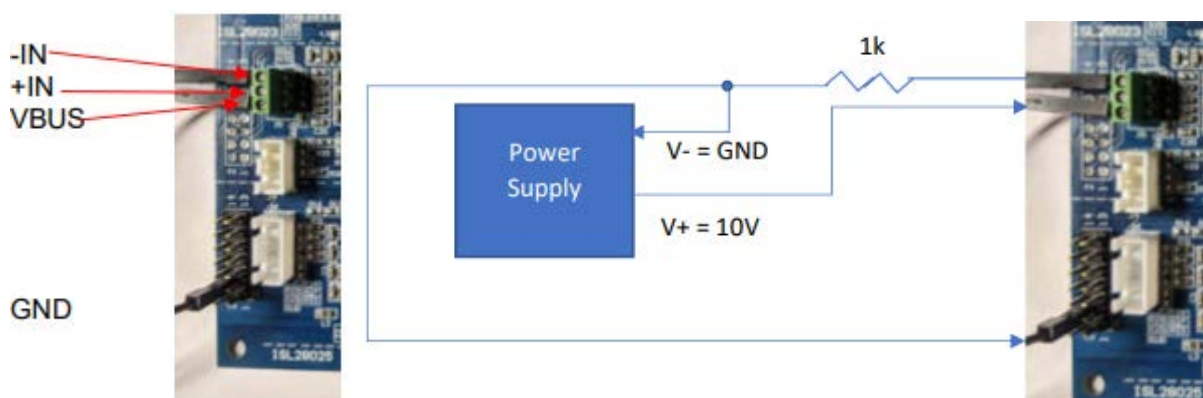
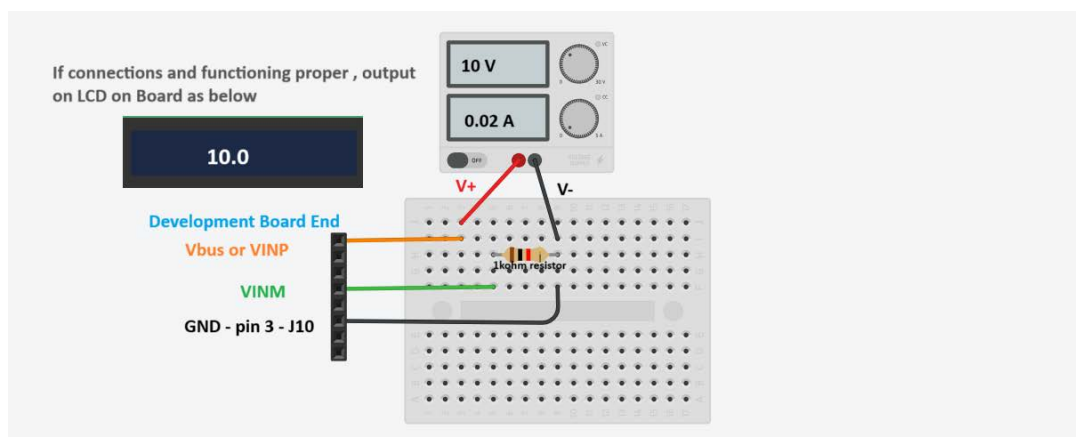

Figure 5. Pinout Board Connections, Left
Figure 6. Simplified Overview to Input Connections and Expected Output
The setup for this receiver board assumes that the user has a 4mA to 20 mA transmitter; although, the testing functionality can be verified using the following: a DC source power supply, a resistor, a few wires, and a breakout board. Refer to Figure 5 and Figure 6 for connection diagrams.
(Refer to Figure 6 for a simplified view of the input connections and expected output.)
1. First, refer to the pinout board connections shown in Figure 5 (left), which includes labels for the +IN, –IN, VBUS, and GND terminals.